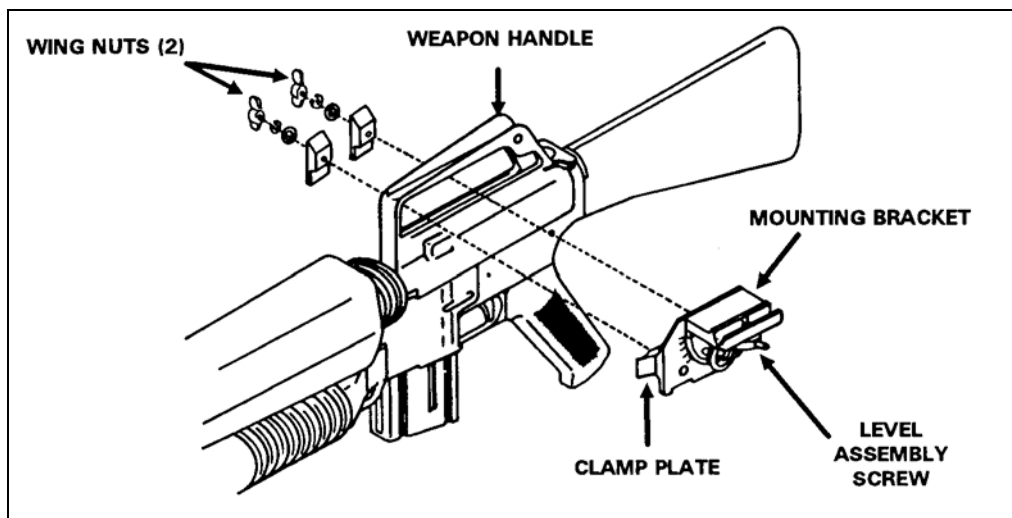

Figure 5-23. Installing the mounting bracket.
- b. Position the mounting bracket assembly on the left side of the rifle so that the two clamps project through the opening under the handle. Loosen the wing nuts completely (Figure 5-23).